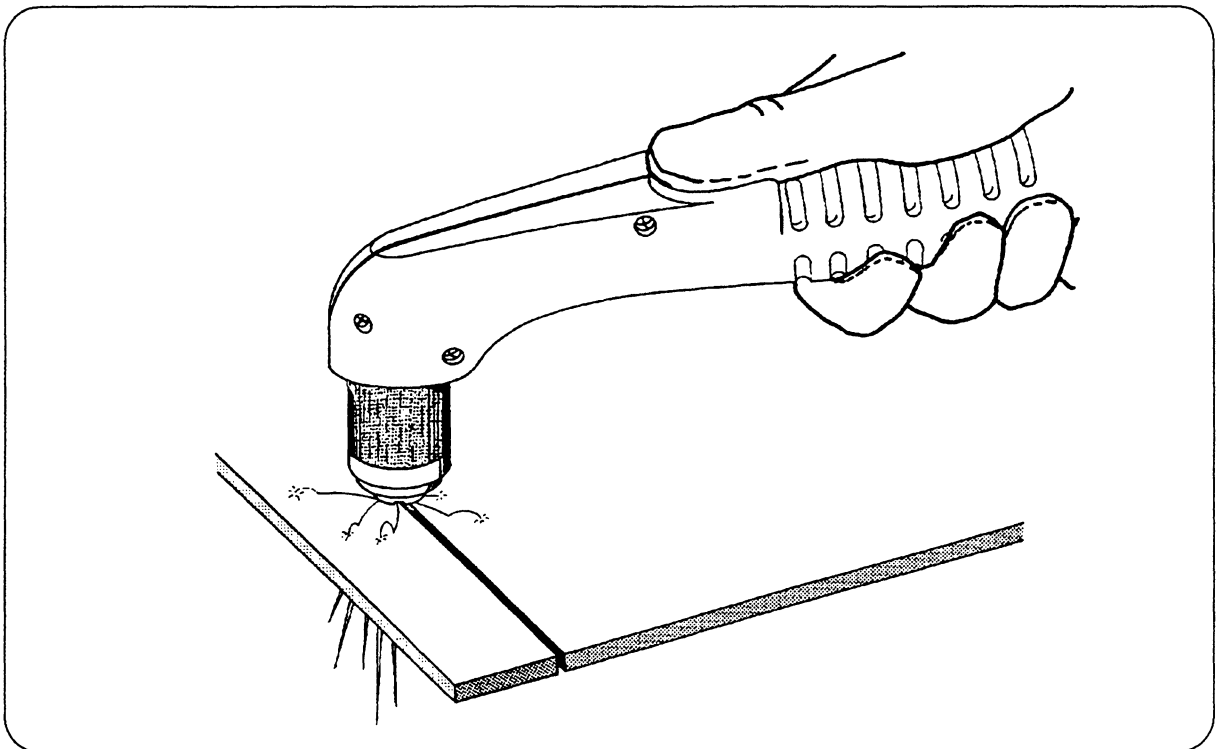

Figure 4-6 Dragging the Torch
- Hold the torch nozzle (tip) at a vertical position and watch the arc as it cuts along the line (Fig. 4-6). By lightly dragging the nozzle on the workpiece, you can maintain a steady cut. For straight-line cuts, use any straight edge as a guide.